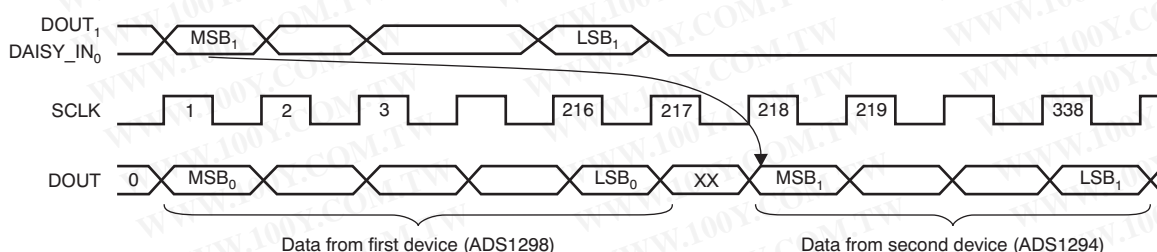

Figure 57. Daisy-Chain Timing for Figure 56b
Daisy-chain mode is enabled by setting the $\overline{\text{DAISY_EN}}$ bit in the CONFIG1 register. Figure 56b shows the daisy-chain configuration. In this mode SCLK, DIN, and CS are shared across multiple devices. The DOUT of one device is hooked up to the DAISY_IN of the other device, thereby creating a chain. One extra SCLK must be issued between each data set. Also, when using daisy-chain mode, the multiple readback feature is not available. Short the DAISY_IN pin to digital ground if not used. Figure 2 describes the required timing for the ADS1298 shown in Figure 57. Data from the ADS1298 appear first on DOUT, followed by a *don't care* bit, and finally by the status and data words from the ADS1294.
1. One extra SCLK must be issued between each data set (See Figure 57).